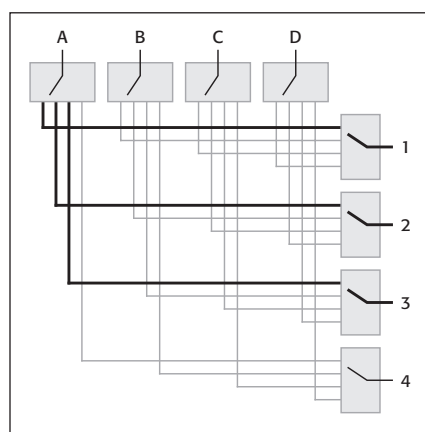

Figure 6. Full access matrix
- **Full or Partial Matrix** – This matrix allows simultaneous connection of an input to multiple outputs. Switch mainframes would include switching cards where the actual signal switching takes place. Switching cards are normally designed in 1×4 building blocks, meaning one card may have three or four 1×4 switches on them. These can be configured together to obtain a larger matrix, either more row or more columns or both. But the system would require a power divider at each input and a multiple position switch at the outputs. Again, impedance matching is important. The advantage of these configurations includes the absence of unterminated stubs, access to all channels, and similar path characteristics. Disadvantages include the need for extensive cabling and the use of many coaxial relays. See **Figure 6**.